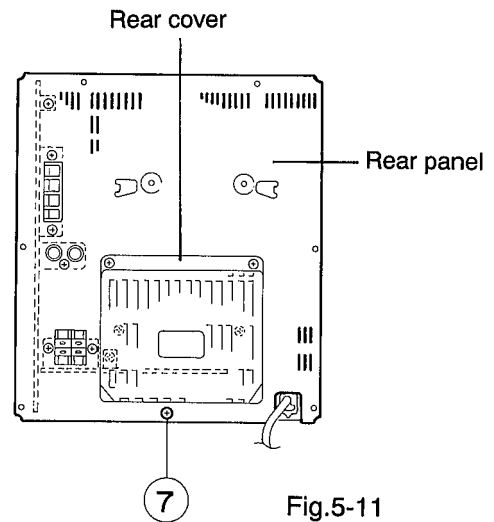

Fig.5-11
5. Remove the screw ⑦ fastening the rear panel and bottom chassis to the rear panel of the main unit. (See Fig. 5-11)